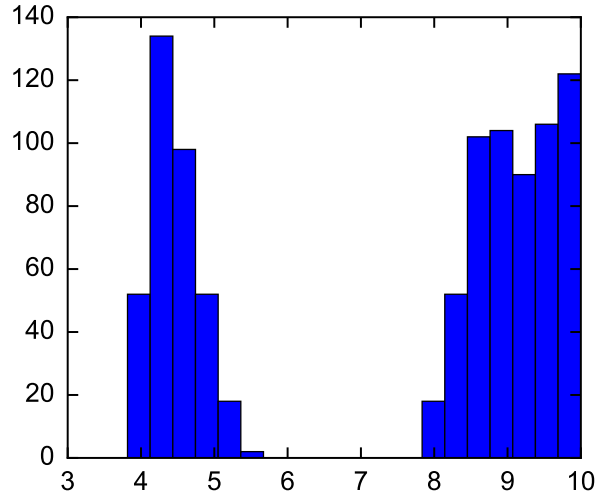

Figure 3: A representative histogram of the neighbour separation distribution.
- Figure 3 shows an example distribution of the chromophore neighbour separation.